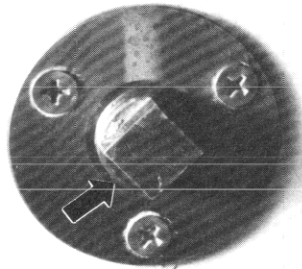

Figure 19
1. Remove the hull drain plug. The plug is in the outside of the transom below the gimbal. See figure 19.